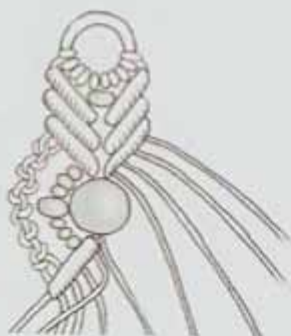

Fig. 8
5. Row 6 - Using Cd #5 (the 5th cord from left) as your **AC**, make a row of **DHHs** with Cords #4, 3, and 2. Omit Cd #1 from knotting (see Figures 8 & 9).